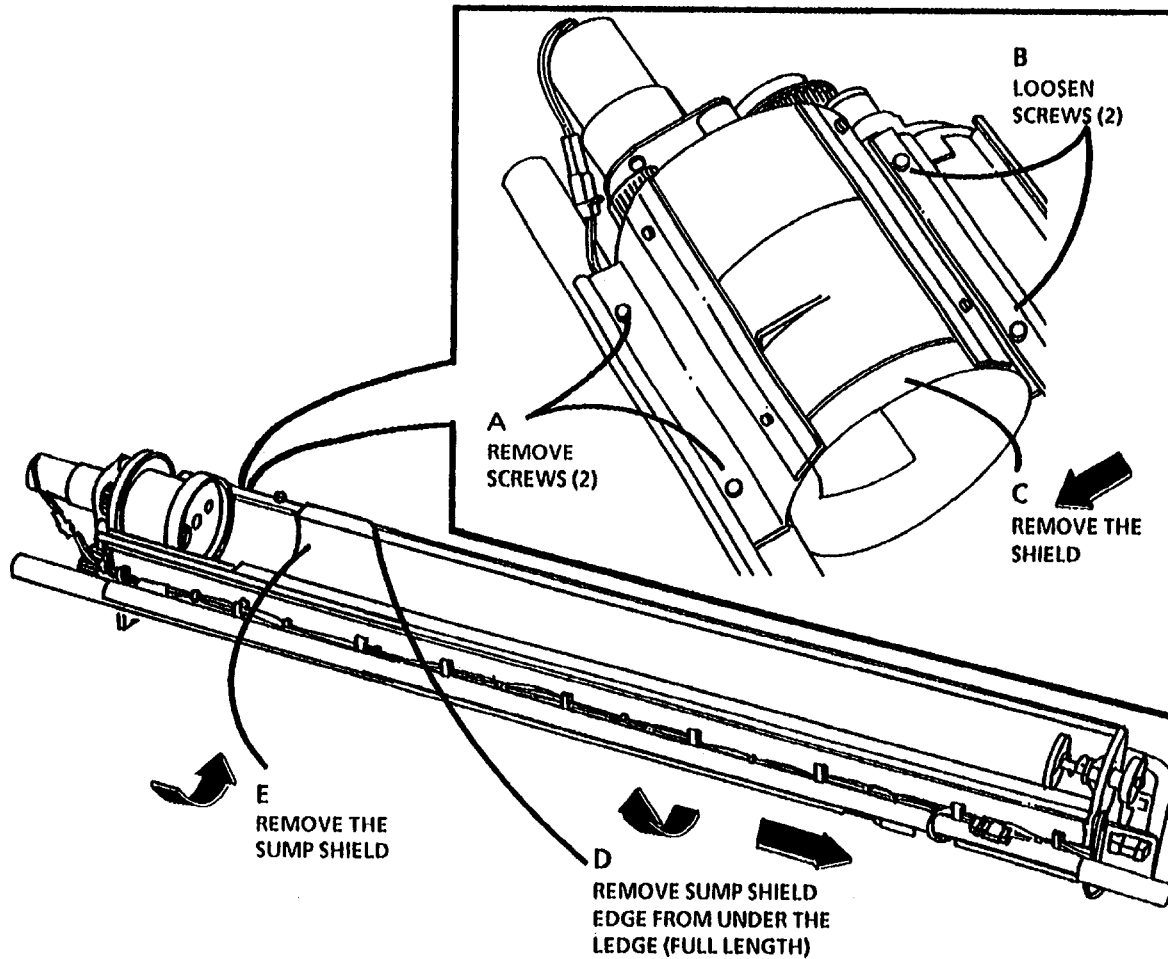

Figure 1. Remove the Sump Shield
3. (Figure 1): Remove the Sump Shield.